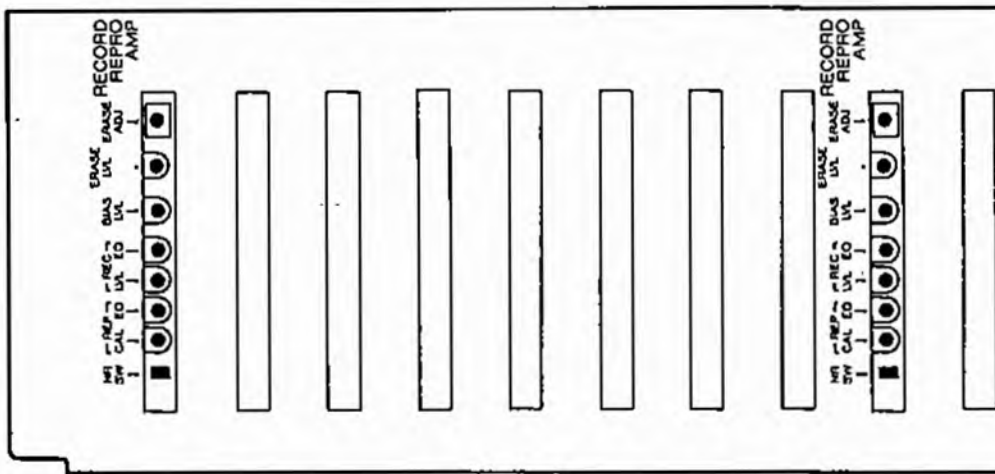

Fig. 6.1
- 3) All 16 (E-16), or 8 (E-8) meters should indicate 0dB levels during the reference 1 KHz tone playback. If not, adjust the reproduce amplifier level (REP CAL, Fig. 6.1). Access to these adjustments is possible by swinging down the front panel of the recorder.
- 4) Similarly, during playback of the 100Hz and 10KHz tones, the meters should all indicate the level specified for the alignment tape. If not, adjust the playback equalization (REP EQ, Fig. 6.1).